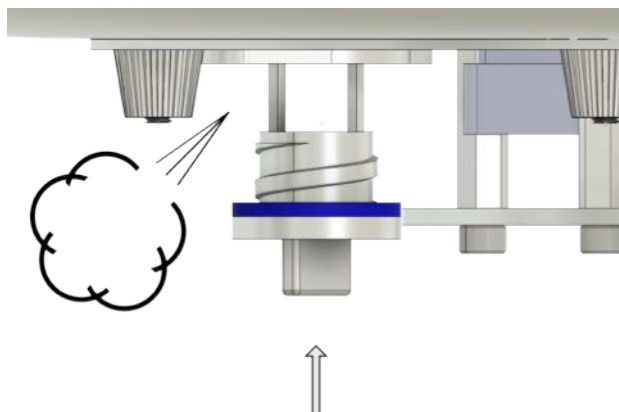

Abb. 4
5. After deflating the balloon envelope, close the twist lock again slightly hand-tight (Fig. 4)